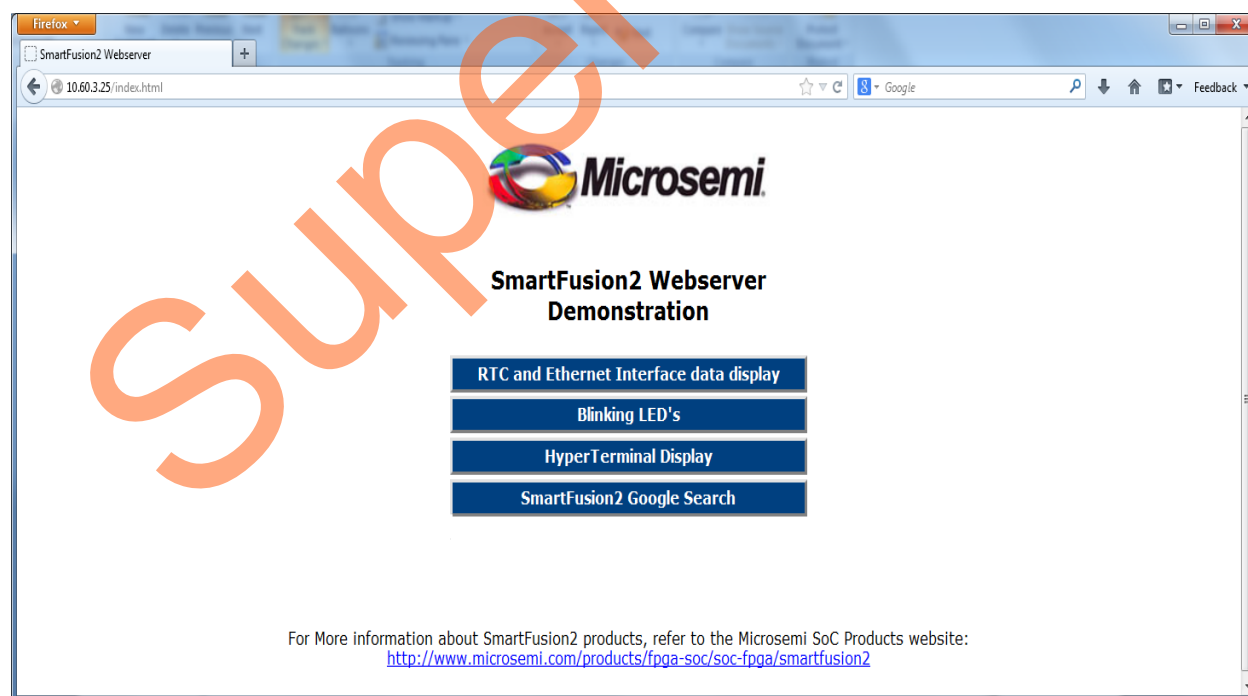

Figure 11 • Main Menu of Webserver
11. The IP address displayed on the HyperTerminal must be entered in the address bar of the browser (Mozilla Firefox) to run the Webserver. The main menu of the Webserver is shown in Figure 11.